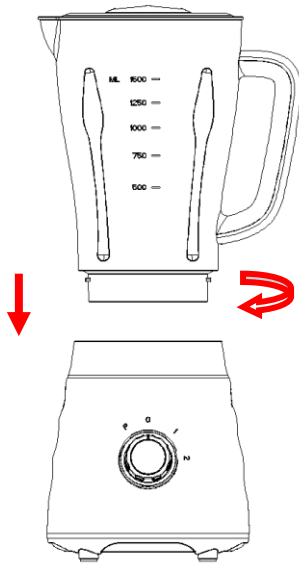

Fig.5
- 3) Finally, place the assembled jar onto the motor unit by adjusting well the connector at the bottom of the jar, and tight it. (See Fig.5)